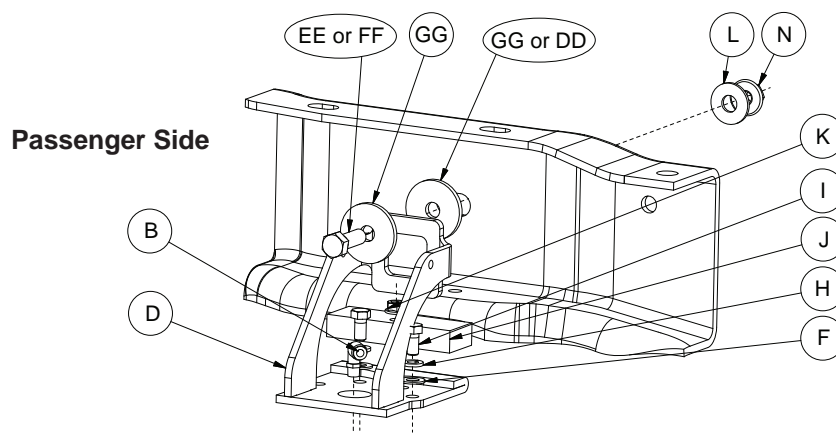

fig. 2b
2. Upper bracket 07993 (E) goes onto the driver side frame rail (fig. 2a) and upper bracket 07148 (D) goes onto the passenger side frame rail (fig. 2b). Set the assemblies into position under the frame., above the axle, and insert the carriage bolt (G) through the exiting jounce bumper hole for both sides.
2. Insert a large ½" flat washer (GG) or ¾" flat washer (DD) if using ¾" existing fifth wheel hitch hardware, between the upper bracket and frame. It may be necessary to pry the upper bracket away from the frame slightly to make it easier to insert.
3. Attach the upper bracket brace by using the existing hardware from the fifth wheel bracket installation that was previously removed, or the 1/2-13 X 1.50" bolt (EE) if you have the in bed hitch option from Ford, or the ½-13 X 3" bolt (if no fifth wheel or in bed hitch option was used) and a large ½" flat washer (L). Insert the bolt and washer through the upper bracket, through the large washer between the bracket and frame from the inside out and cap with a flat washer (L) and ½" serrated flange lock nut (N) (fig. 2b). Tighten securely.